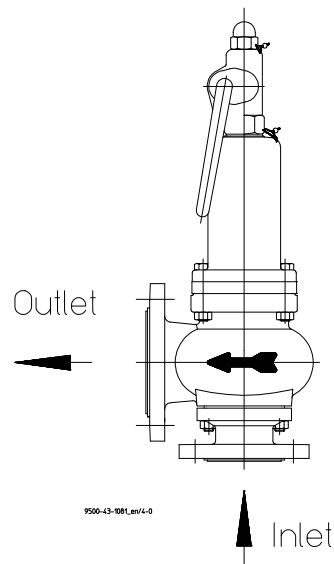

Fig. 5
- In the KSE/F 100/150 the lead-sealed hex. screw **901/3** is replaced by a threaded rod **918/1** with a prevailing torque type hex. nut **929/2**. The cap nut/blocking screw or the threaded rod/hex. nut are supplied separately. See also the details in **Fig. 5**.